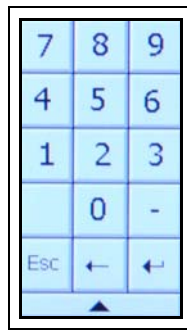

Figure 30 Number Keypad
2. In “Modify Spout Positioning” screen select the “0” key pad next to “OFFSET ALL”. A number keypad will display (See Figure 30.)
2. Press the button under the "Homing Interval" label. A number keypad will display (See Figure 30.)